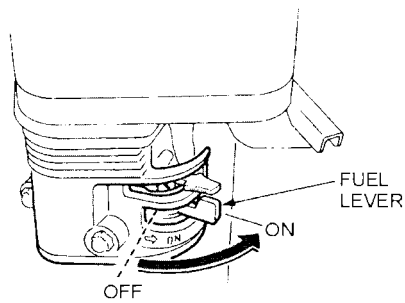

Figure 1. Engine Fuel Valve Lever
1. Place the engine **Fuel Valve Lever** (Figure 1) to the "**ON**" position.